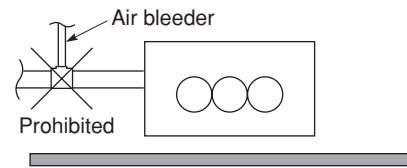

Fig. 3-90
- Do not install an air bleeder as this may cause water to spray from the drain pipe outlet. (Fig. 3-90)